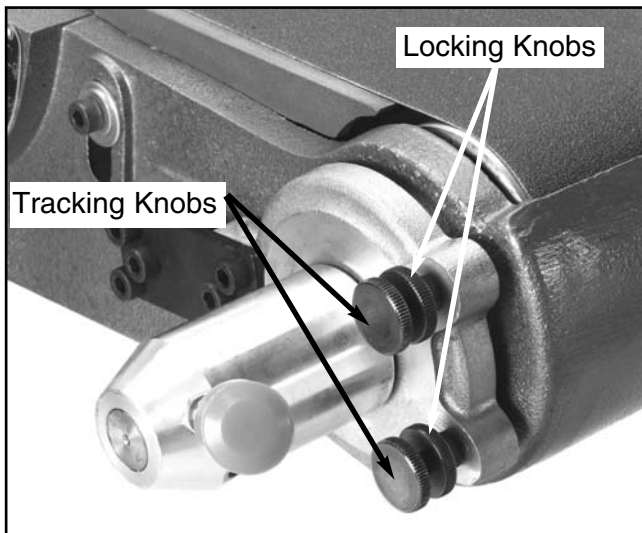

Figure 16. Belt arm adjuster knobs.
4. The difference in the measurements is the amount of "twist" in the belt. Reduce the twist by adjusting one of the two tracking knobs. **See Figure 16.** If the "out-board" end (or the end furthest from the tracking adjustment side) of the roller measures greater than the "in-board" side, tighten the right hand tracking knob.
7. Reinstall the belt. Move the belt by hand (DO NOT turn on the power). If the belt tracks to one side or the other, adjust the idler roller slightly by backing off the locking knobs and turning the knurled adjustment screws in or out. **See Figure 16.** Make very small adjustments and move the belt by hand for a few revolutions to test the result. Keep readjusting until you are satisfied the belt is tracking properly when moved by hand.